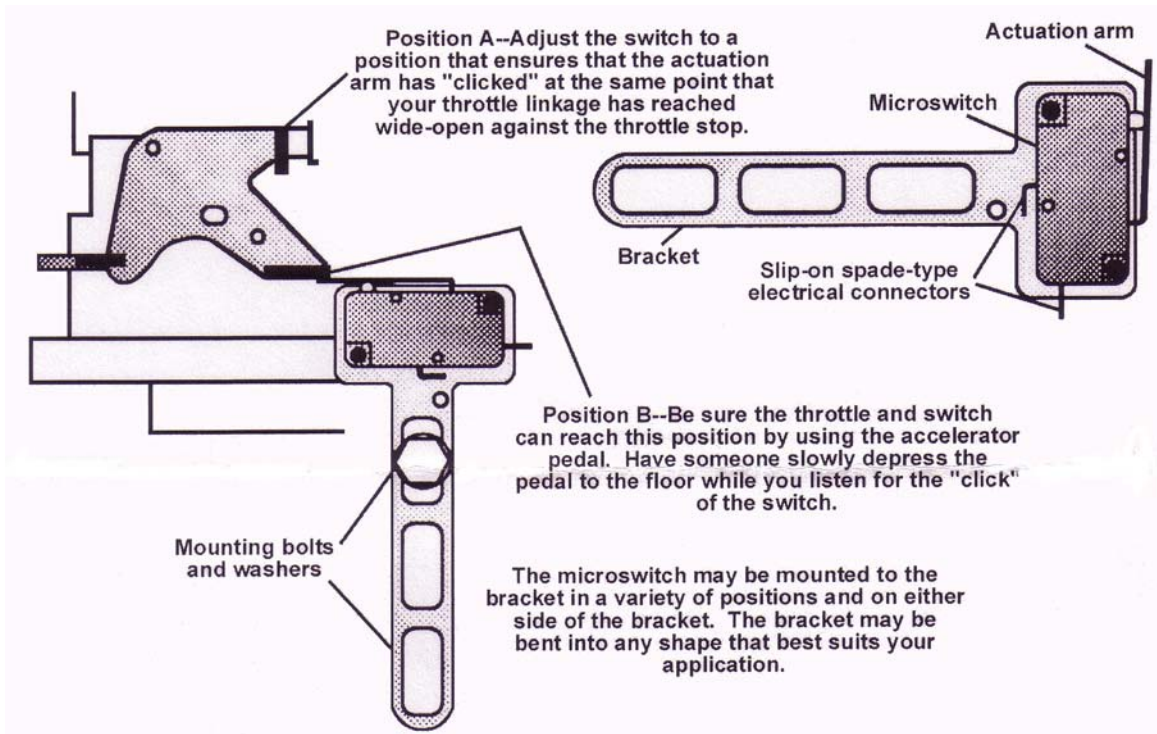

FIG. 10
- 2) Install the throttle micro switch (26) as follows: Hint, the micro-switch may be mounted to the bracket in a variety of positions and on either side of the bracket. The bracket may be bent to suit the application. **WARNING! Binding or dragging of the throttle linkage will create a potentially dangerous stuck-throttle condition. Ensure that the micro-switch does not interfere with the normal operation of the throttle linkage operation.**
- b. Adjust the micro-switch to trigger at wide-open throttle by adjusting the micro-switches position to ensure the actuation of the micro-switch “clicks” at the same point the throttle linkage reaches wide-open throttle against the throttle stop (figure 10, position A).
- c. Ensure that the throttle and switch can reach the activation position, as shown in figure 10, position B, by using the accelerator pedal. Have an assistant slowly press the pedal to the floor while you listen for the “Click” of the micro-switch.
- 3) Install the arming switch (18) in the vehicle interior, within easy reach from the drives seat. This switch will put power to the entire system. CAUTION! Never activate your nitrous system below 3000 RPMS as doing so could damage your engine. If an auxiliary inline fuel pump is used, hook the pump power to the arming switch through a relay so that the pump only turns on when the nitrous system is armed.
- 4) Install the relay (20) and the relay harness (19) in the engine compartment near the battery.